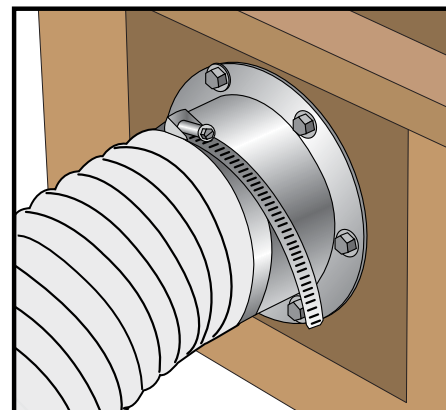

FIG. 33b
- d. Install the Take-Off Collar onto the hole using the mounting holes around the flange [FIG. 33b].